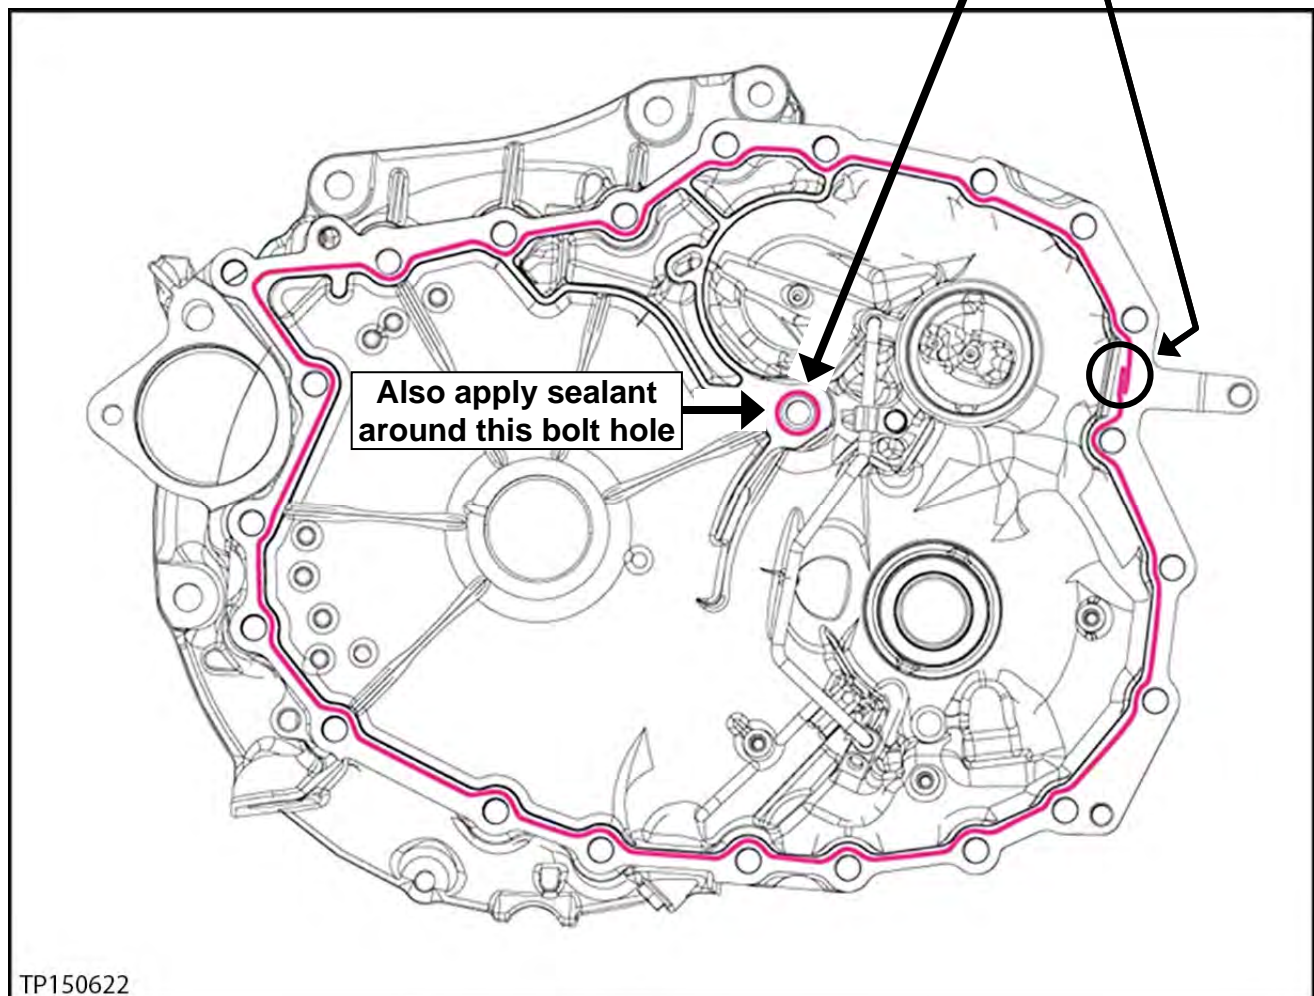

Figure 80
1. Apply one continuous 2.0 mm (0.08 inches) diameter bead of pink colored Loctite 5460 Sealant or equivalent (see footnote **(4)** and **(6)** in **PARTS INFORMATION**) as shown in Figure 80.